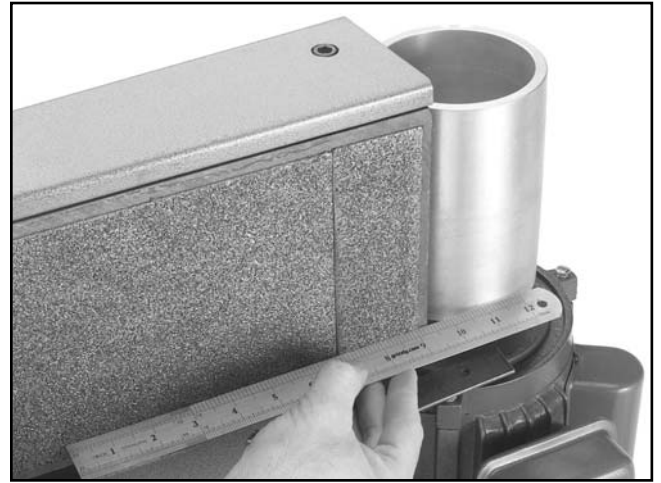

Figure 42. Checking bottom of platen-to-roller.
4. Now place the straightedge across the BOTTOM part of the platen graphite and the main roller as shown in **Figure 42**. Measure the gap, if there is one, between the straightedge and the main roller.